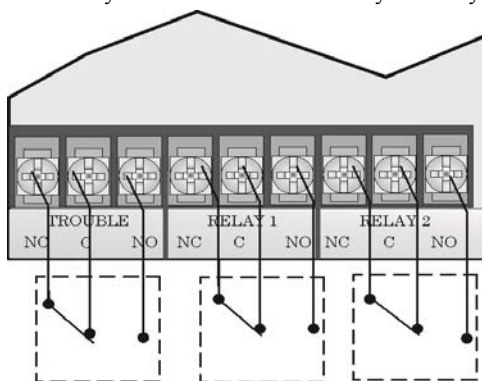

Figure 4.53 Location of Conventional Relay Circuits
1. Wire Relay 1 and/or Relay 2 as needed for your application. See Figure 4.53 for the location of the relay terminals.